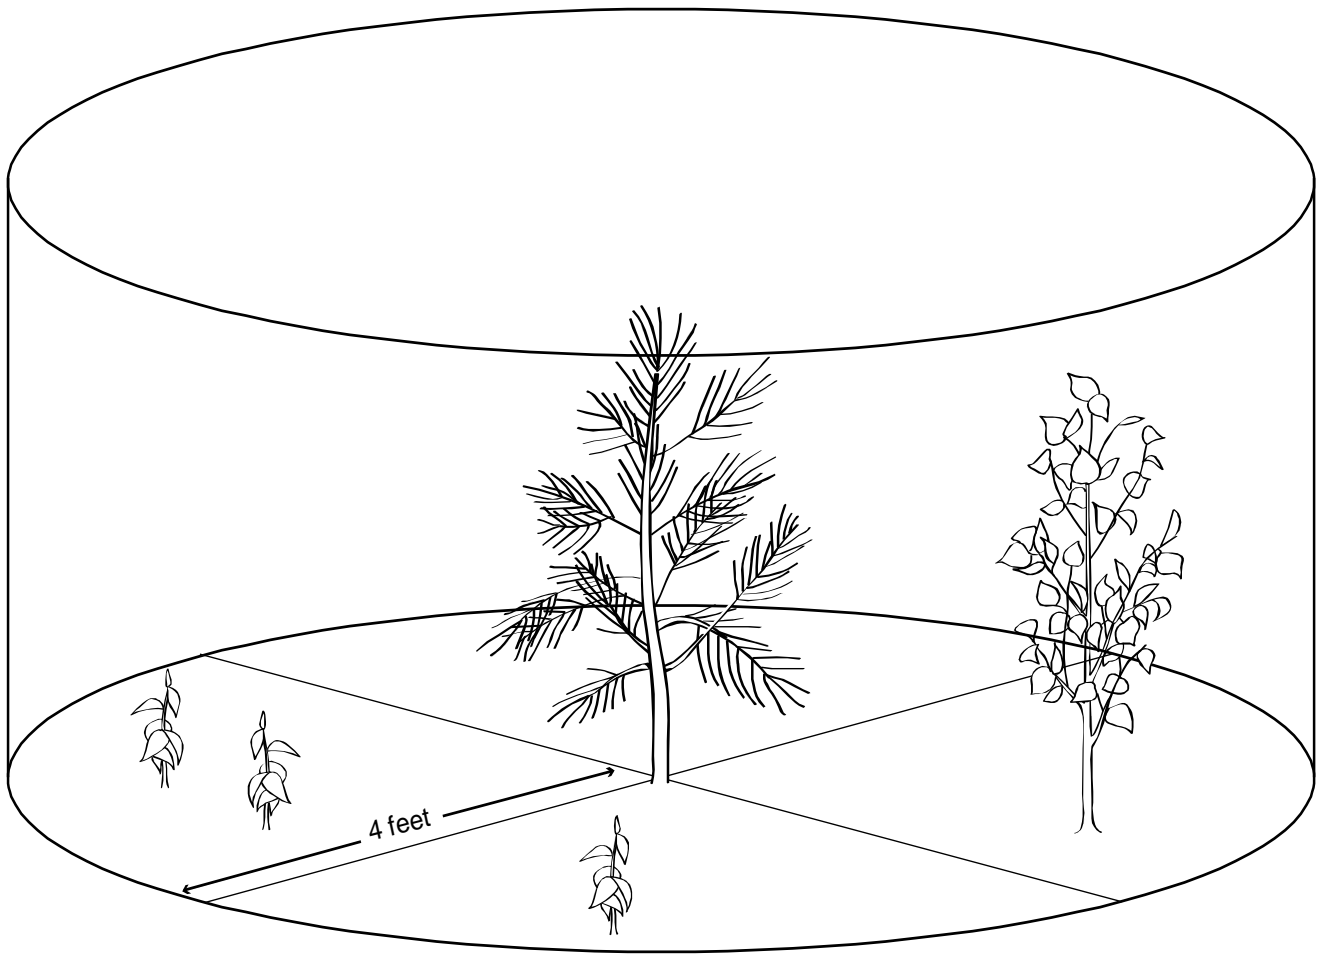

Figure 1
- 1) tree competitors taller than half of the crop tree height occur in at least one quadrant of the competition cylinder and more than one quadrant is occupied by either woody shrub or non-crop tree competitors (see Figure 1) or,